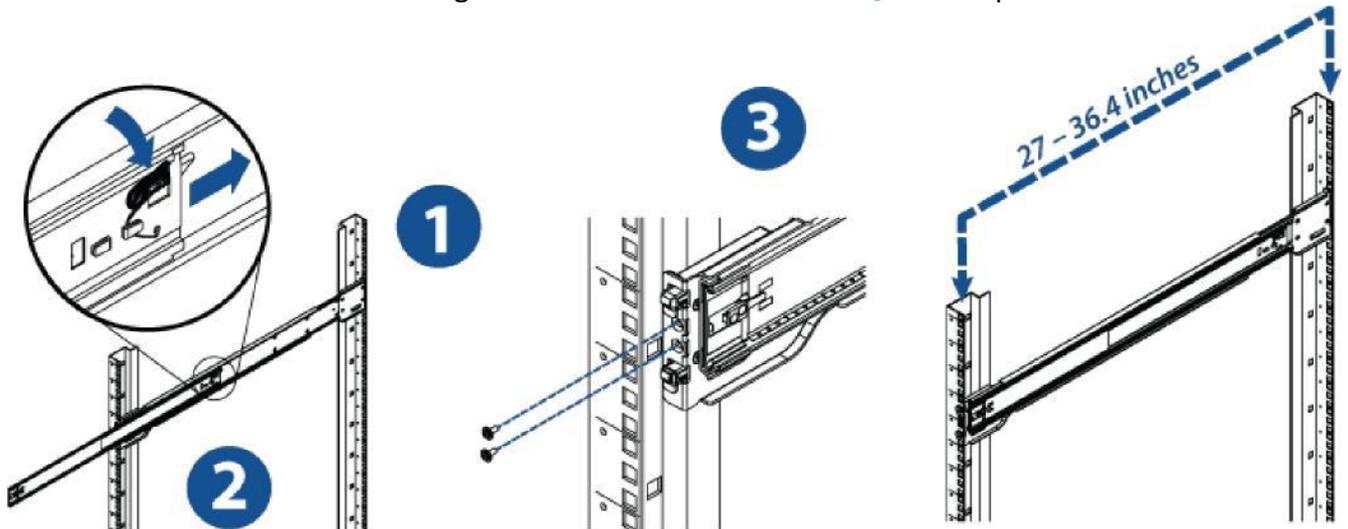

Figure 11: Attach Outer Rails to the Rack
5. Press the button where the two outer rails are joined to retract the smaller outer rail as illustrated in Figure 11 steps 1 and 2.
6. Secure the front end of the outer rail to the rack by hanging the hooks of the rails to the rack holes and securing with screws as illustrated in Figure 11 step 3.